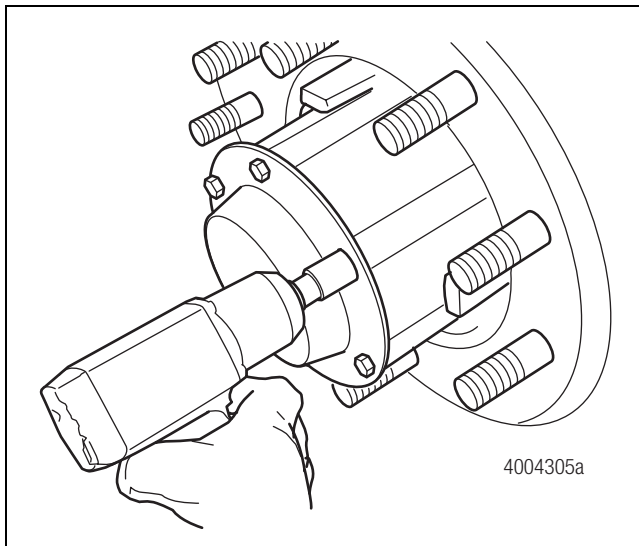

Figure 4.12
- Remove the hubcap and hubcap gasket. Figure 4.12.